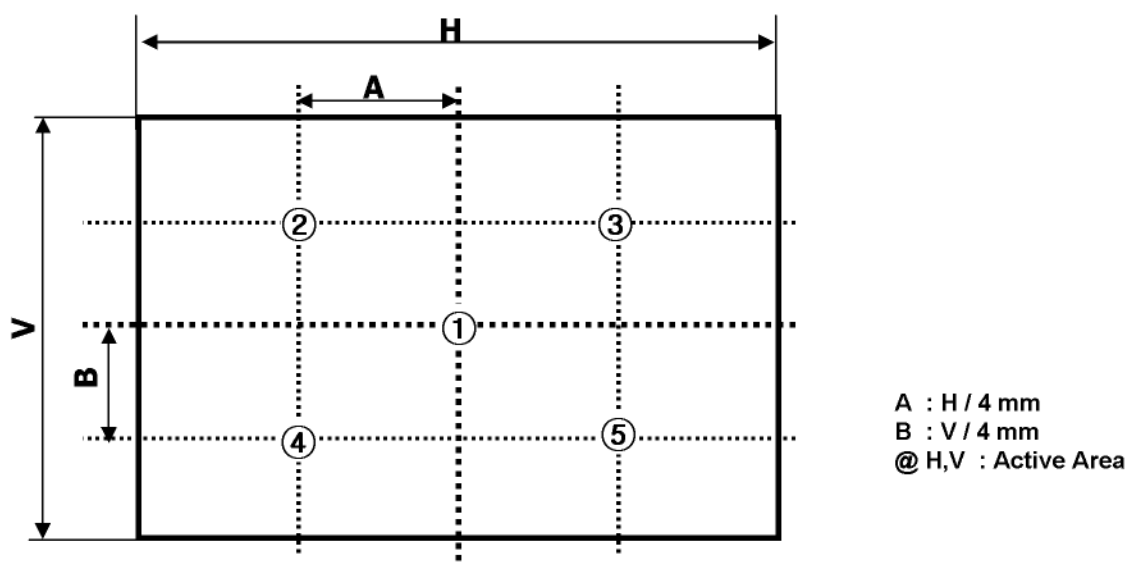

FIG. 2 5 Points for Luminance Measure
2. Surface luminance are determined after the unit has been 'ON' and 1 Hour after lighting the backlight in a dark environment at $25 \pm 2^\circ\text{C}$. Surface luminance is the luminance value at center 1-point across the LCD surface 50cm from the surface with all pixels displaying white. For more information see the FIG. 2.
For more information, see the FIG. 2.